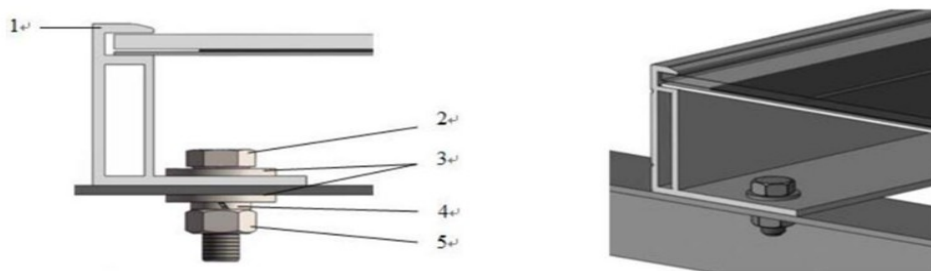

Figure 2. Bolt Installation Diagram
- See Figure 3 for details of the product type and mounting position of modules with bolt mounting (inner 4 holes), and Figure 2 for details of the product type and mounting position of components with bolt mounting (outer 4 holes).
- Secure the module in each fixed position with M8 bolts and flat washers, spring washers and nuts as shown in Figure 2 and tighten to a torque of 16 to 20 N·m. The torque reference value of M6 bolts is 9~12 N·m.